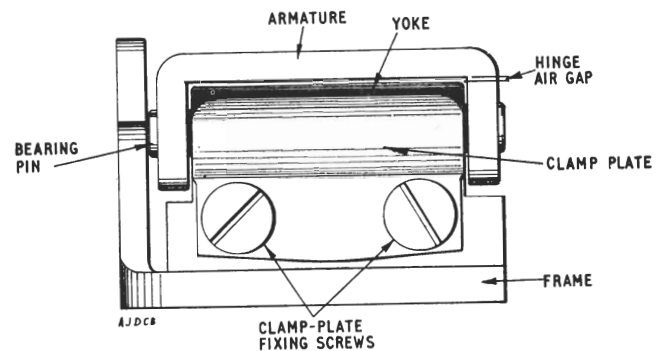

FIG. 4
10. Hinge air gap.—With the armature operated its underside must be parallel to the yoke with an air gap of 2 mils (see Fig. 4). Check as follows:—